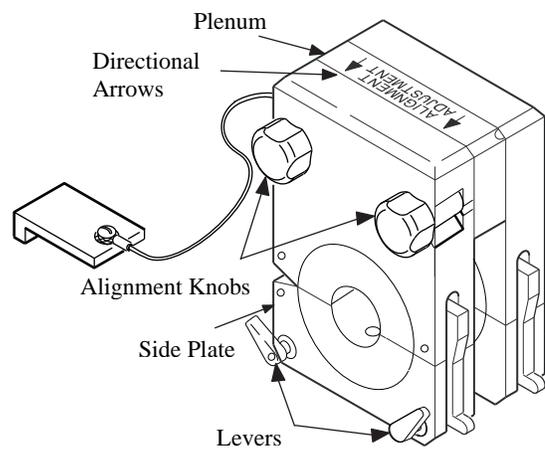

Figure 16 Loosening the Side Plate
1. Turn the fixture block over and locate the directional arrows on the plenum. The arrows point to the appropriate side plate. See Figure 16.
2. Loosen the two alignment knobs just enough to loosen the side plate from the plenum. See Figure 16.